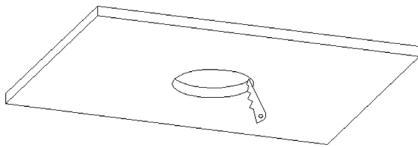

FIG. 7
9. To account for ceiling thickness, adjust the depth of the adjustable collar using an allen wrench (See FIG. 7) until button of adjustable collar is in flush with the ceiling surface.